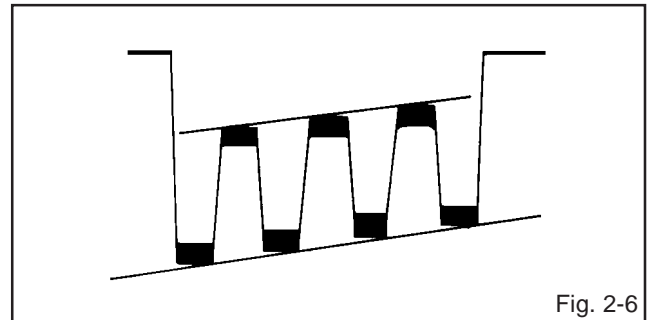

Fig. 2-6
6. Press the VOL. UP/DOWN button on the remote control until the waveform becomes as shown in **Fig. 2-6**.